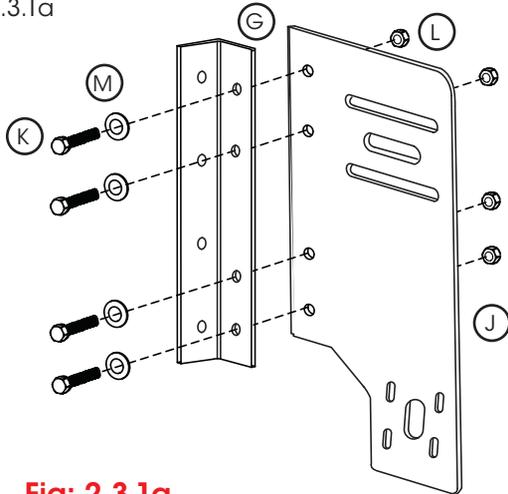
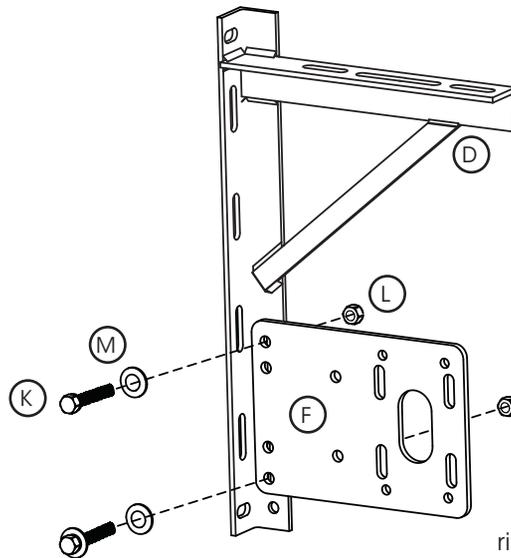

Fig: 2.3.1a
Fig: 2.3.1b
- a) Attach the opener plate (J) or (F) as per Fig 2.3.1a or Fig 2.3.1b using bolts (K), washers (M) and nuts (L) as shown.
- b) For plates brackets, attach the plain side mounting plate (I) in the same manner as the opener plate (J) in fig 2.3.1a